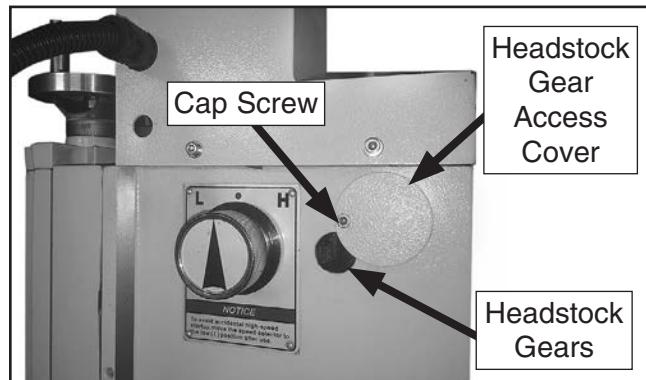

Figure 138. Headstock access cover and cap screw location.
1. Remove cap screw and headstock gear access cover, as shown in **Figure 138**.